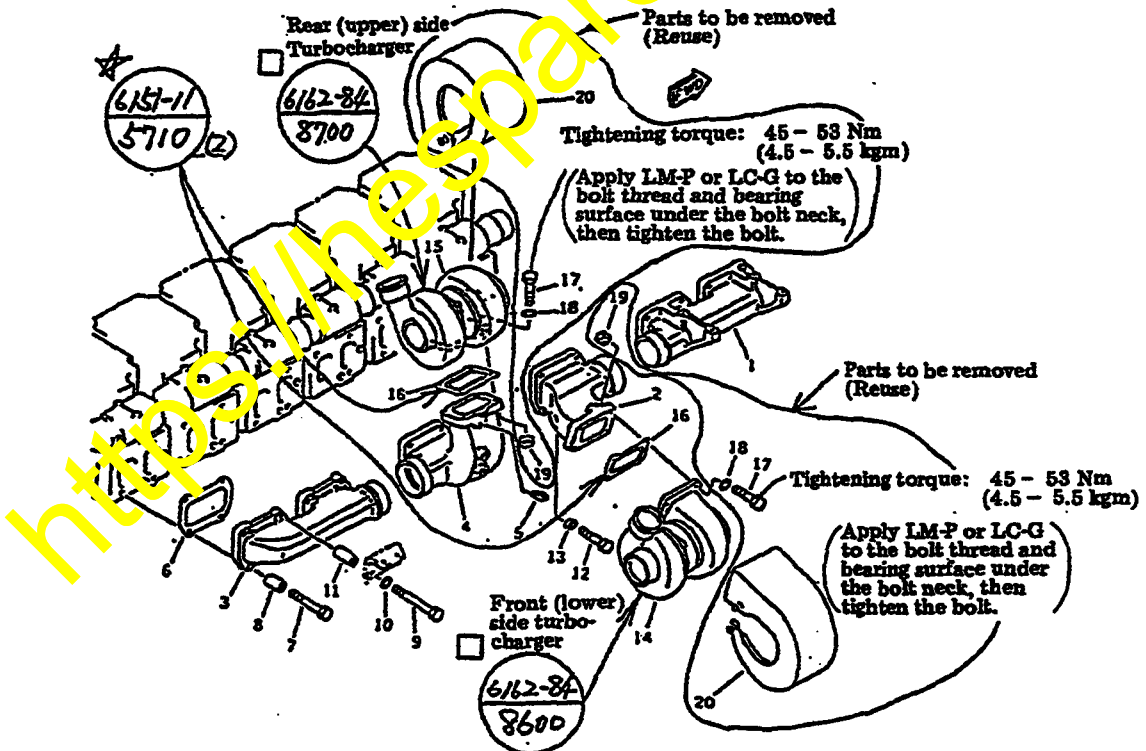
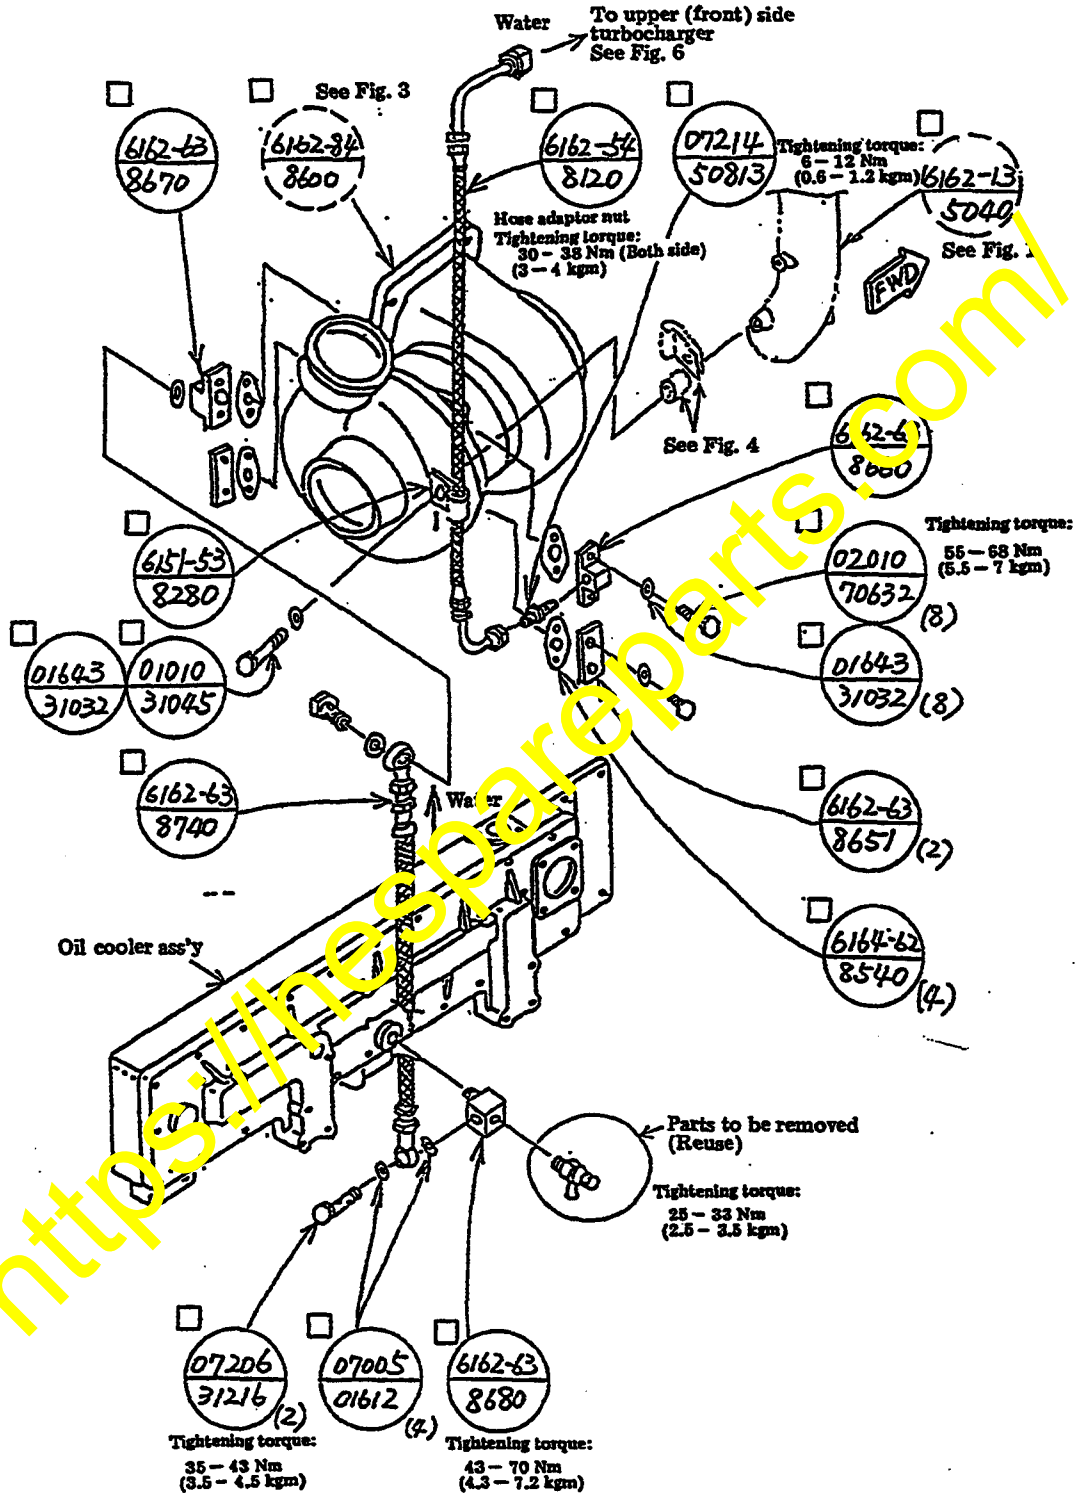

Fig. 3 Turbocharger mount system
Fig. 5 Front (lower) side turbocharger cooling water tube
- 4) Remove the turbocharger as shown in Fig. 3 (on page 6).
- 1) Assemble the cooling water tube as shown in Figs. 5 and 6 (on pages 8 and 9) then install the turbocharger. (To install the turbocharger, see Fig. 3)